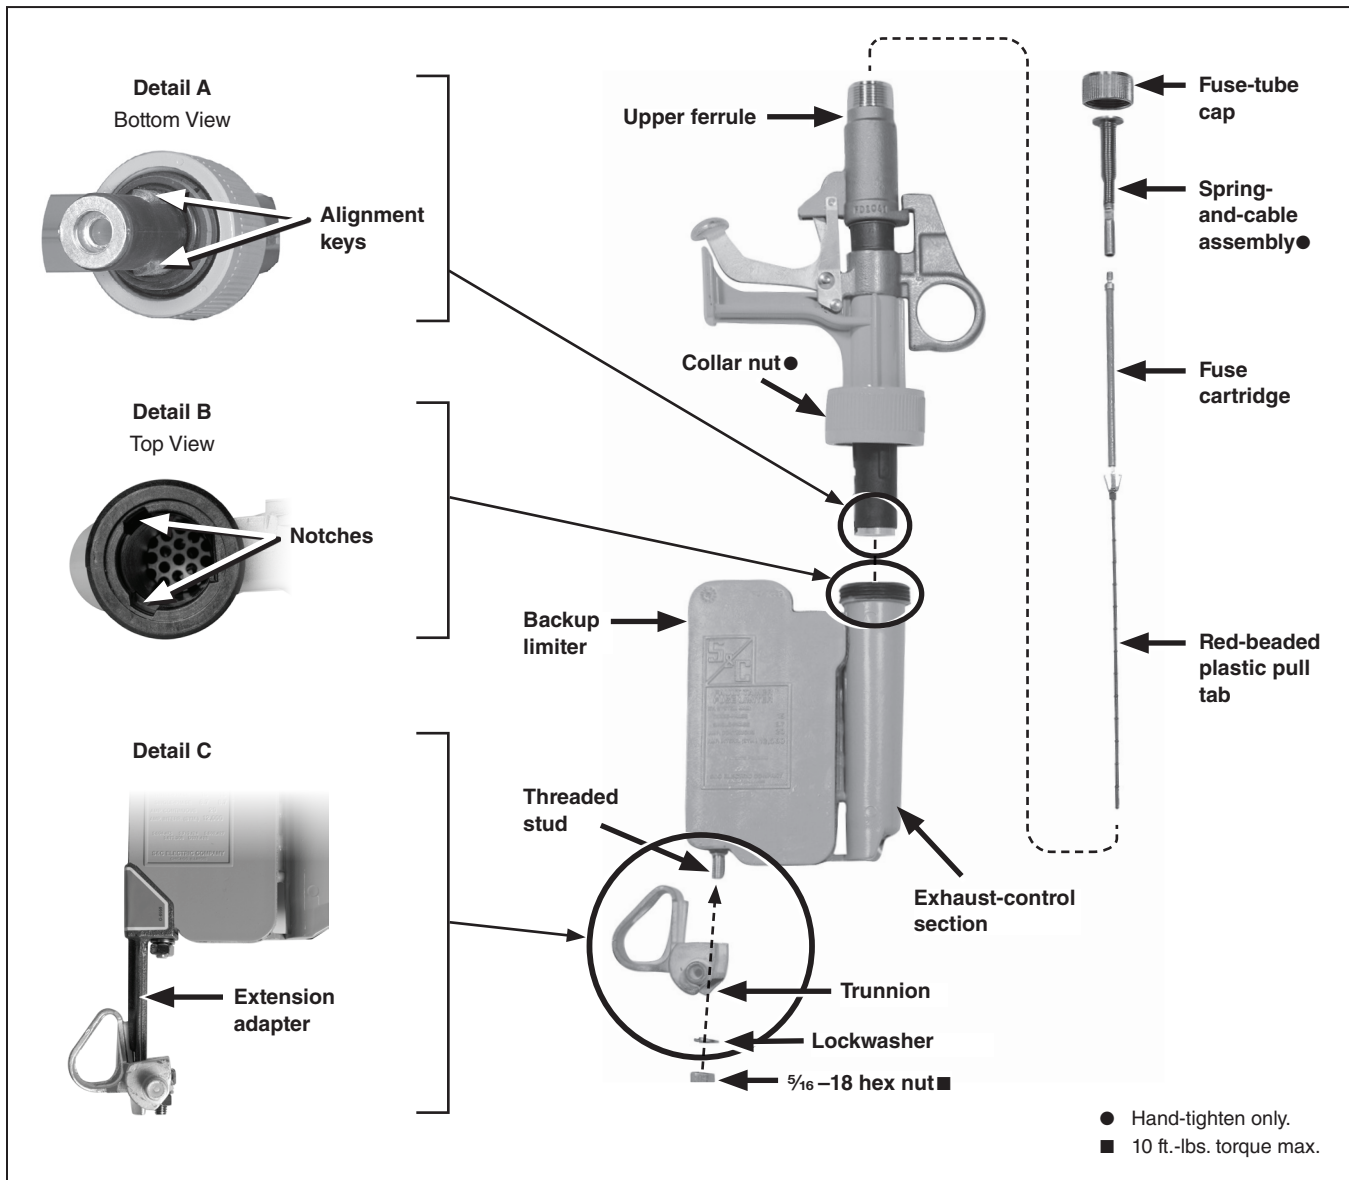

Figure 2. Fault Tamer backup limiter, fuse tube, and fuse cartridge
STEP 3. Pull through the red-beaded plastic pull tab until the large bead at the end of the pull tab engages with the end of the cartridge, as shown in Figure 2, and insert the entire assembly (fuse cartridge and spring-and-cable assembly) into the fuse tube. Then, screw the fuse-tube cap on the fuse-tube upper ferrule and tighten securely with pliers.
- STEP 6.** Align the keys on the fuse tube with the notches in the exhaust-control section of the backup limiter. See Figure 2, Details A and B on page 8. Insert the fuse tube into the exhaust-control section and hand-tighten the collar nut.
- STEP 7.** Attach the trunnion to the threaded stud on the backup limiter with the lockwasher and $\frac{5}{16}$ -18 hex nut, provided. See Figure 2 on page 8.
Remove the trunnion from the backup limiter, if installed. Save the hardware. Attach the extension adapter to the threaded stud on the backup limiter with the lockwasher and $\frac{5}{16}$ -18 hex nut provided. Then, attach the trunnion to the extension adapter with the $\frac{5}{16}$ -18 x $\frac{7}{8}$ hex-head cap screw, lockwasher, and $\frac{5}{16}$ -18 hex nut provided. See Figure 2 Detail C on page 8.
- STEP 8.** Push the upper ferrule down until it reaches a positive stop to verify full travel of the upper ferrule and the latching mechanism. See Figure 2 on page 8.